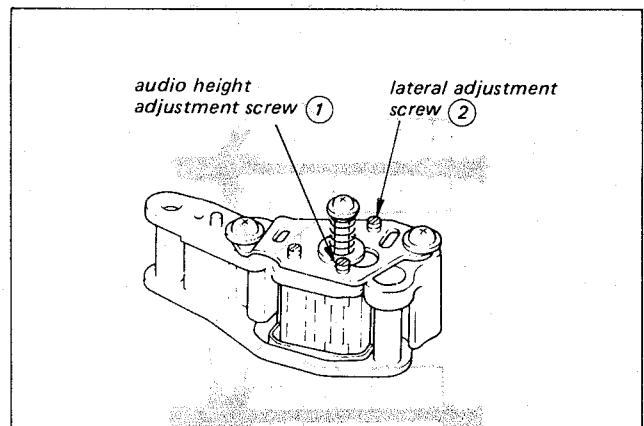

Fig. 4-14.
- 2) Turn the audio head height adjustment screw ① and the lateral adjustment screw ② (Fig. 4-14) until the audio output waveform amplitude is maximum.